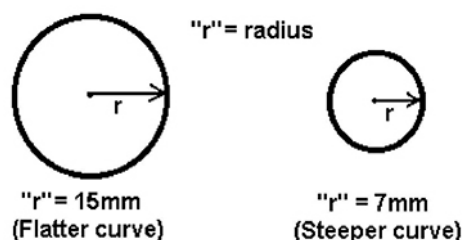

Figure 1-45. Length of radius affects degree of surface curvature.
A better way to describe the steepness of a curve is to refer to its radius of curvature (r). Radius refers to the length of a line drawn from the center of a circle out to the edge. The more curve a circle has, the shorter its radius (r) (fig. 1-45). Think about the curvature of a racquetball compared to the curve of a basketball. From the center of the racquetball to its outer cover is about an inch, so it would have an r of 1 inch. From the center of a basketball to the outer cover is about 6 inches, so it would have an r of 6 inches. The racquetball obviously has a steeper curvature than the basketball. If you were to cut each one in half, touch it with a magic pupillary distance (PD) ruler, and make them lenses, the racquetball lens would have more power than the basketball lens.